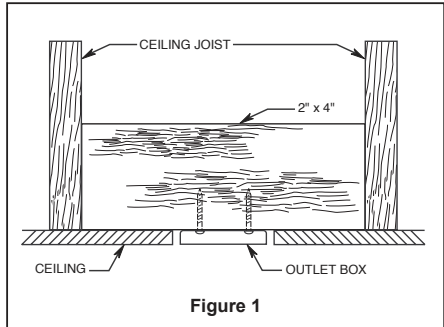
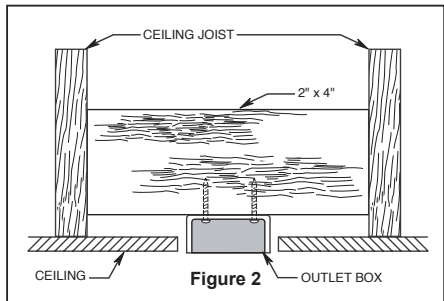
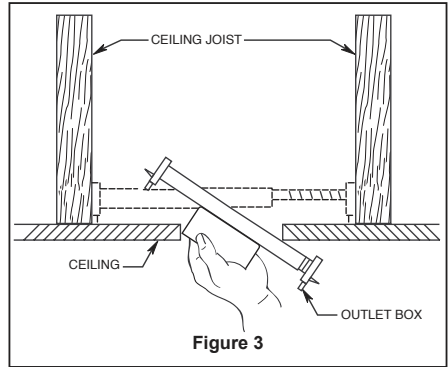

Figure 1
Figure 2
Figure 3
Your new ceiling fan will require a grounded electrical supply line of 120 volts AC, 60 HZ, 15 Amp Circuit. Electrical code requires use of a fan-rated outlet box to support the extra weight and motion associated with a ceiling fan. A fan-rated box will be labeled as such and typically supports up to a 70lbs ceiling fan. Fan-Rated Outlet Boxes vary in ratings and design. Ensure the ratings of your ceiling fan outlet box meet the requirements for the ceiling fan being installed. Figure 1, Figure 2 and Figure 3 depicts different structural configurations that may be used for mounting the outlet box.
Low-profile use (Figure 1)
Deep-profile use (Figure 2)
Brace use (Figure 3)
3. Loosen the two set screws and locking nuts in the downrod support of the motor assembly. Route the black, white and blue wires through the downrod. (Figure 3)